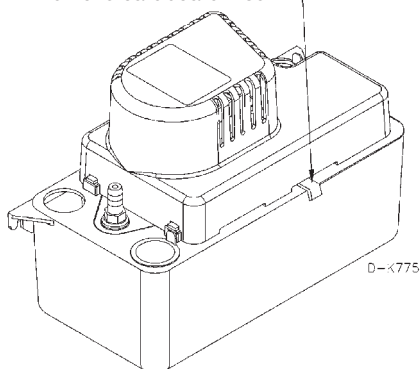

Figure 1.
1. Carefully unpack the pump. Remove the cardboard packing from the motor cover air slots. Carefully slide the packing away from the pump. This packing is used to prevent switch movement during shipment (Fig. 1).